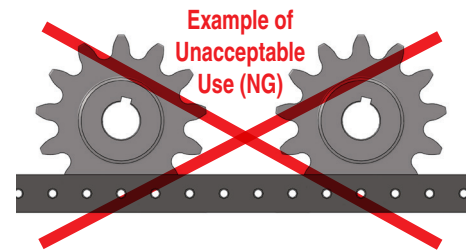

Fig. 4 Multiple Drive on One Segment
- (1) If multiple pin gears engage with the same segment, the minimum number of mounting bolts may not withstand the load. Be sure to avoid having multiple pin gears engage with the same segment. (Fig. 4)
- (2) When multiple gears are used, the number of engagements per roller increases, accelerating wear of the rack and wheel.